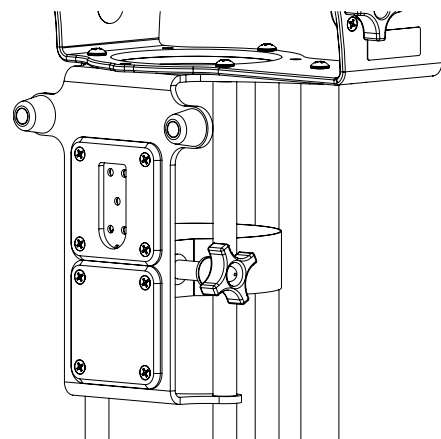

Figure 18: Removing the mounting clip
3. Unscrew and remove the mounting clip using a Phillips screwdriver #2 (Figure 18). Set aside the five (5) screws temporarily.